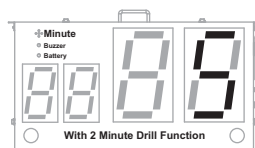

Figure 3
- C. Press the BRK button to enter setting break time function. If you use second for this segment break time , make sure the status indicator "Minute" light is blank. (Press M/S button will change the functions between Min and Sec) Use the +1, -1, +10, or -10 button to set second for segment break time you need. e.g. After segment 1, set break time to 5 seconds. see Figure 3.